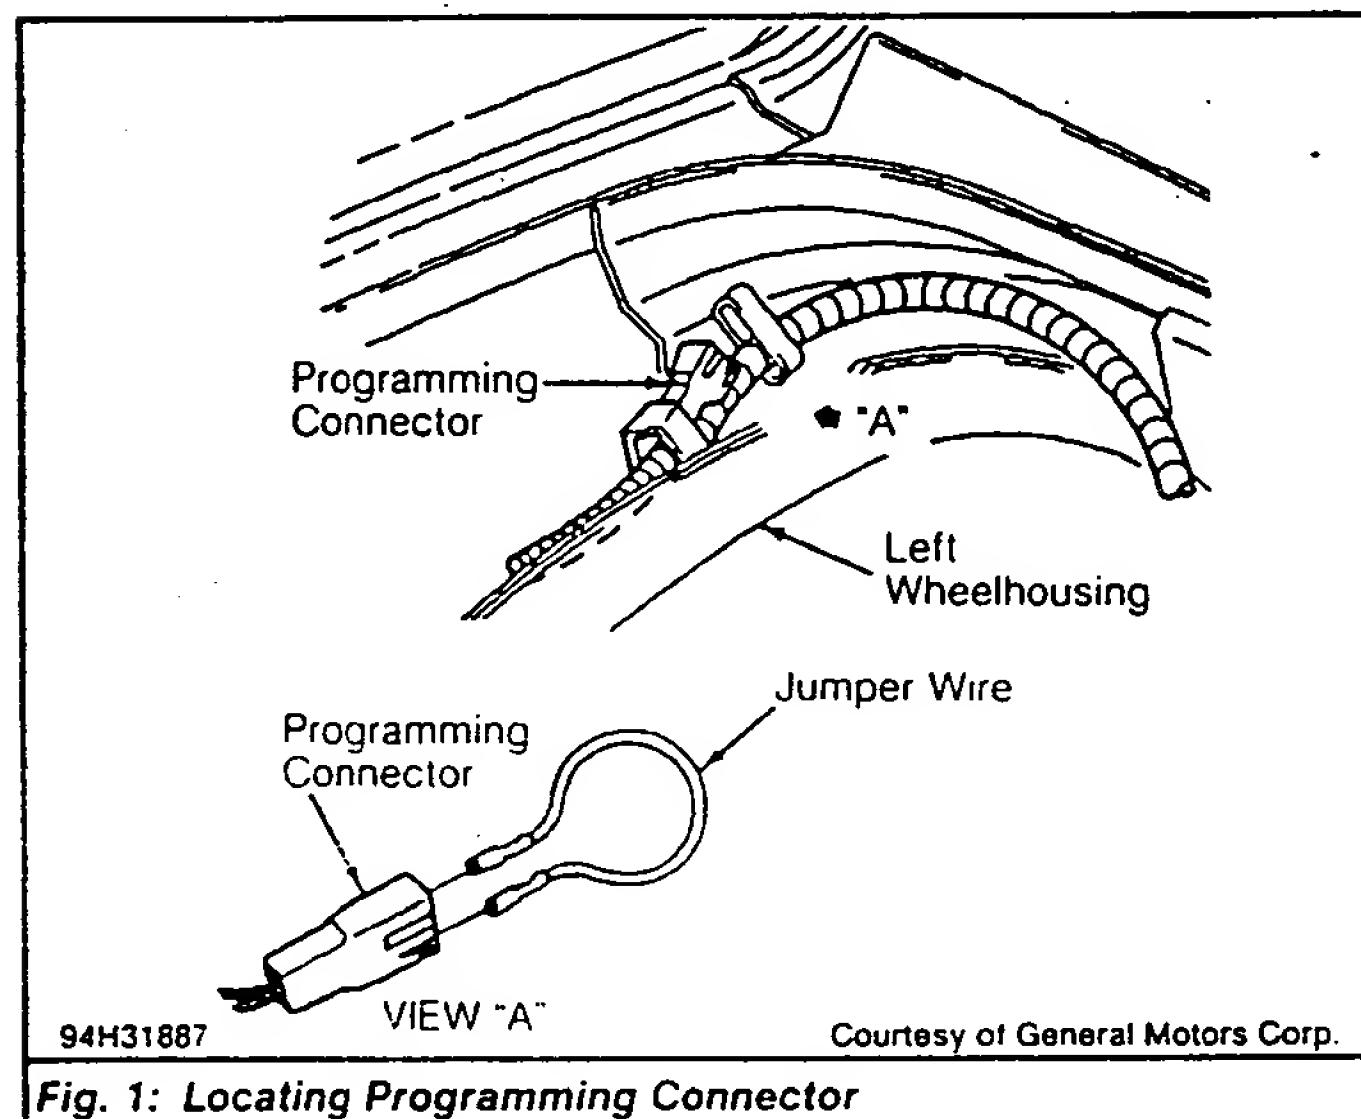

Fig. 1: Locating Programming Connector
2) During programming of keyless entry module receiver, feedback is provided by receiver by cycling door locks. To program a keyless entry module receiver to match the VAC of 1-2 transmitters, use a jumper wire and jumper 2 terminals of keyless entry module program connector. Program connector is located in front of left rear inner wheel panel, inside trunk. See Fig. 1.